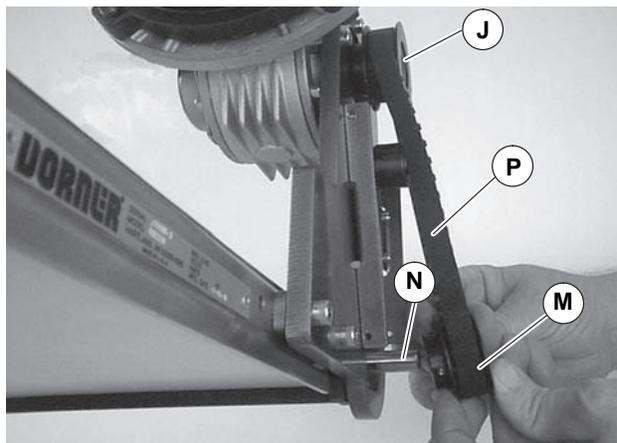

Figure 14
6. Install key (Figure 14, item N).
- Wrap timing belt (P) around driven pulley (M) and drive pulley (J). Install driven pulley (M) onto conveyor shaft.